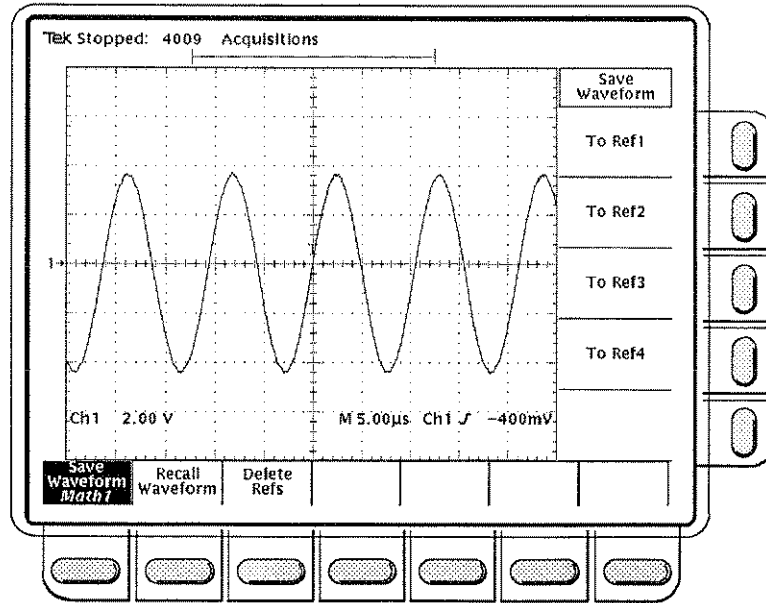

Figure 3-59: Save Waveform Menu
- Step 1:** Press the save/recall **WAVEFORM** button to call up the Save/Recall Waveform menu (Figure 3-59).